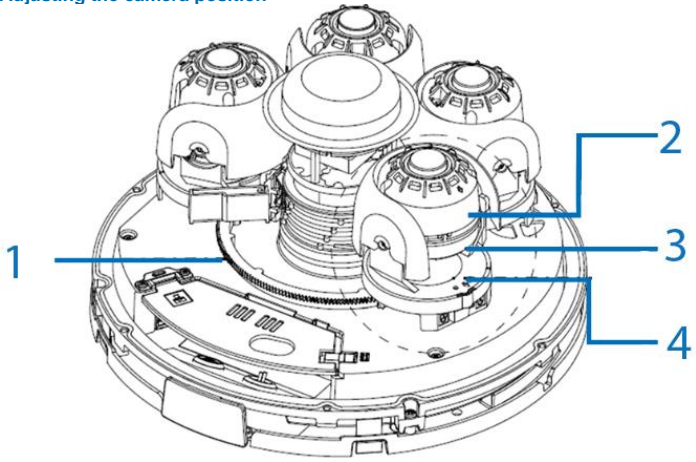

Figure 10
- Note:** Each camera lens has a lock and unlock mechanism. See Figure 10.